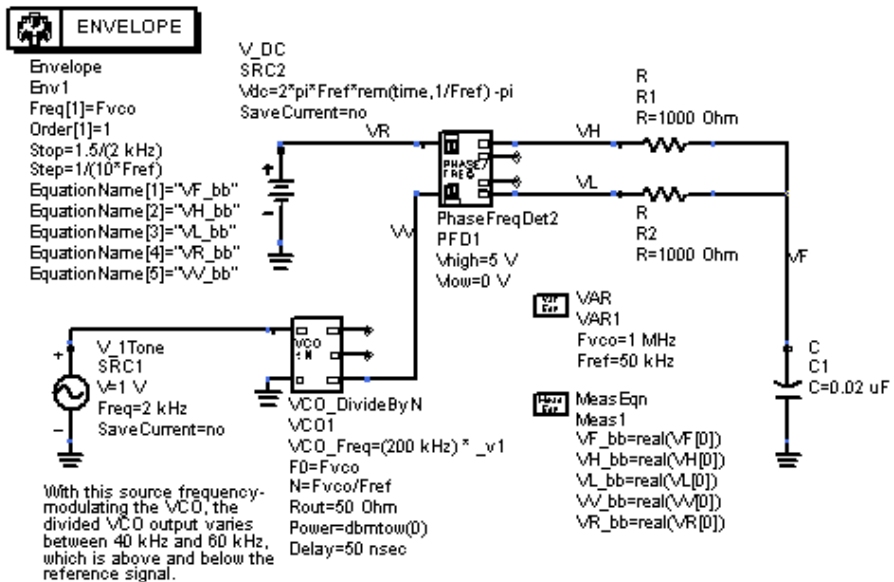

Figure 5-5. One application of detector
7. Other effects, such as asymmetry between the four different outputs, can be incorporated by changing the external components. Figure 5-5 shows one application of this detector and Figure 5-6 the resultant output waveforms.